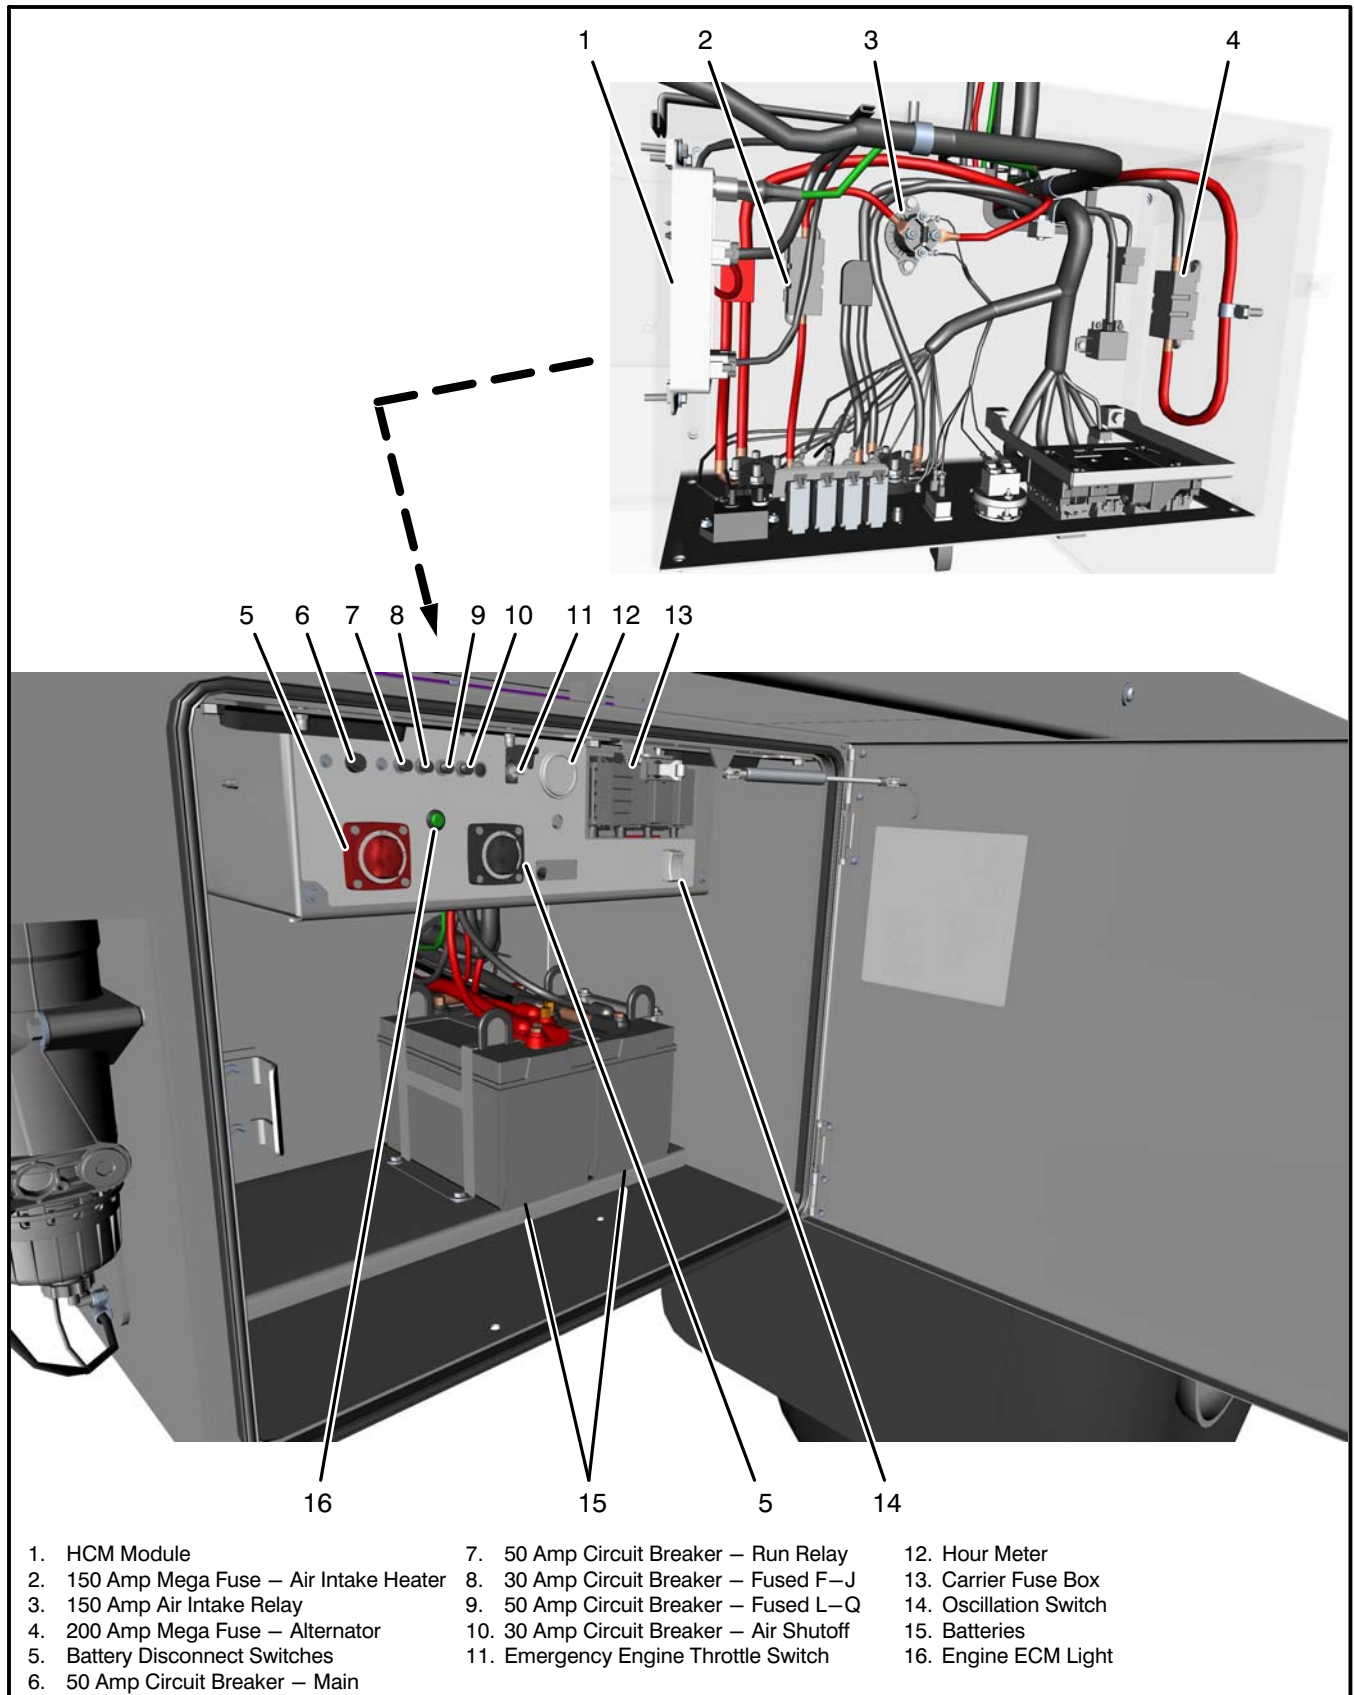

Figure 1–51
1. Connect the +/– battery clips to the crane batteries. Ensure the positive and negative battery clips are installed on the correct battery terminals. Refer to Figure 1–50.
2. Connect plug A and/or plug B to the electrical connector for the desired function(s). Refer to Figure 1–49.
The power panel is on the left side of the carrier next to the fuel tank. Refer to Figure 1–51.
The emergency engine throttle switch should be activated when there is a loss of communication between the engine and the pulse crane control system display, or there is a failure of the pulse crane control system display. When activated, the engine will rev at 1200 rpm. Refer to Figure 1–51.
The circuit breakers are in the power panel. Refer to Figure 1–51. There is one manual reset type circuit breakers which service the crane's electrical system. If a breaker has been tripped, push and release the breaker to reset.